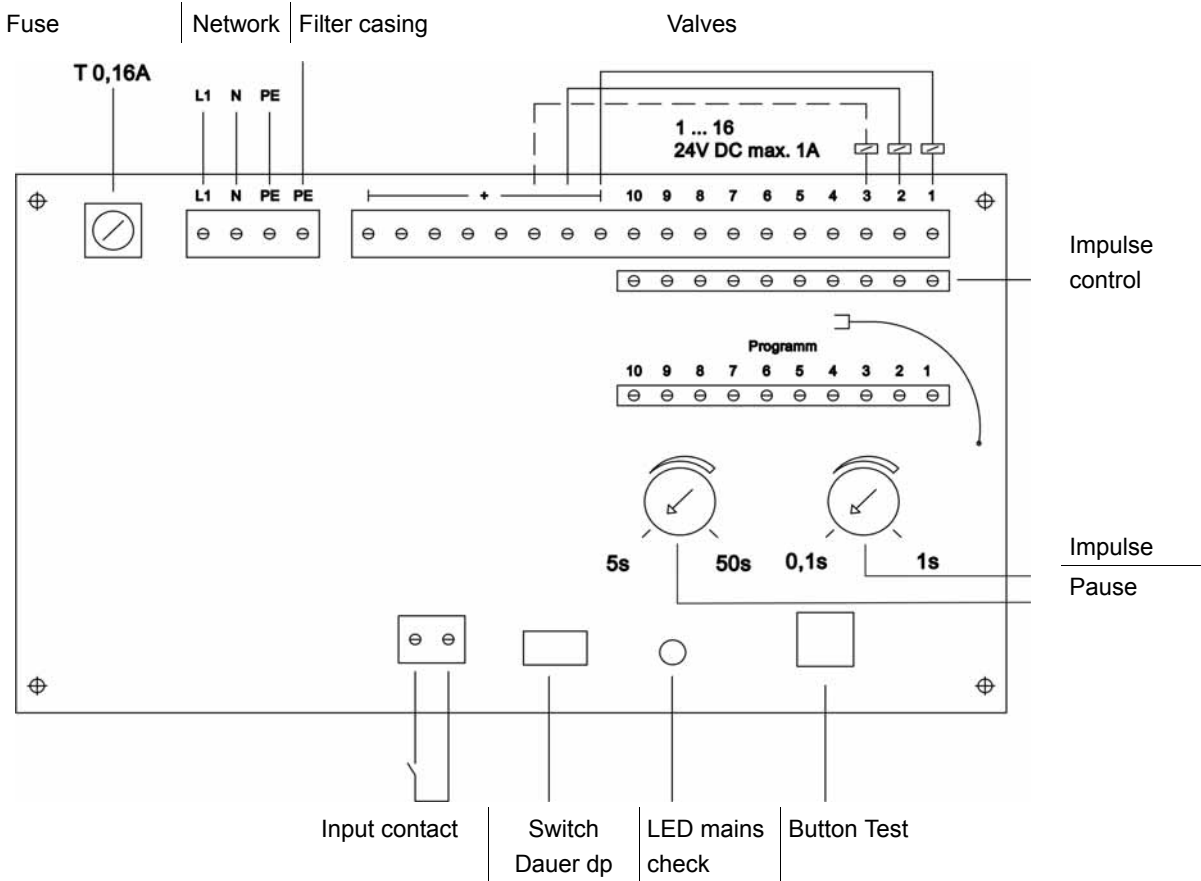

Figure 4-1: Connecting plan filter control VS 10-1
1. Connect the control unit according to the connecting plan (figure 4-1 and 4-2).